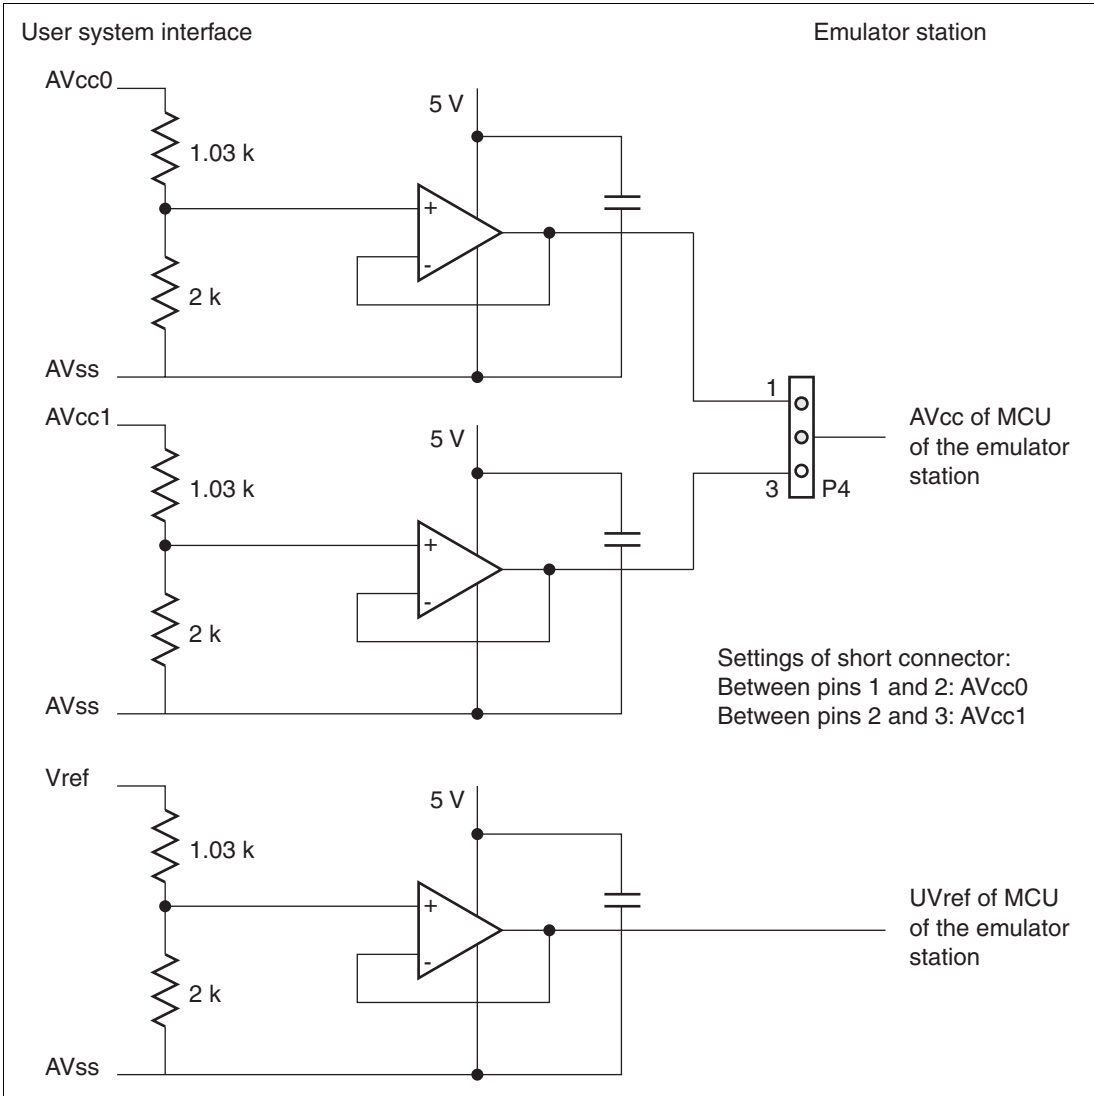

Figure 13 Level-shift Circuits with AVcc0, AVcc1, and Vref
6. Level-shift circuits with AVcc0, AVcc1, and Vref are mounted on the user system interface cable, as shown in figure 13. At shipment, the jumper pin is inserted in the side of pins 1 and 2 of the P4 short connector. For details on the differences between the target MCU and the emulator, refer to the H8SX/1650 E6000H Emulator User's Manual (HS1650EPH60HE). For the ranges of input voltages of AVcc0, AVcc1, and Vref, refer to the H8SX/1544 Group Hardware Manual.